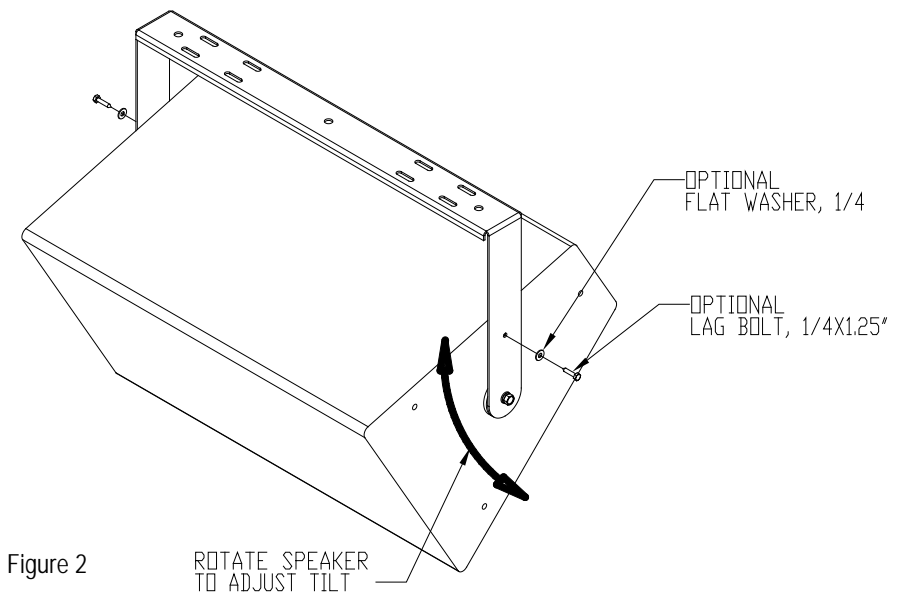

Figure 2
Step 4. Rotate the loudspeaker into the desired direction then tighten the side bolts permanently. To permanently set the speaker angle, insert the included $\frac{1}{4}$ " lag bolts through the unused arm hole and into the loudspeaker cabinet (Figure 2).